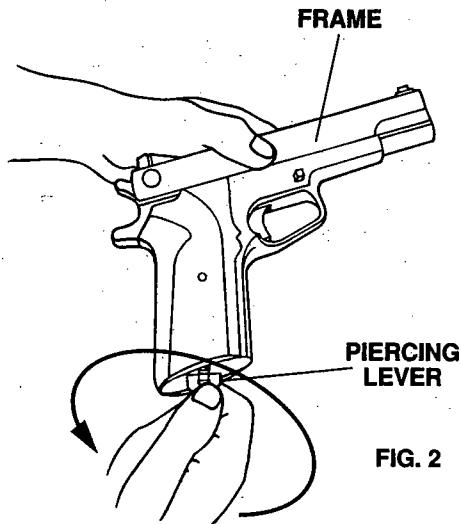

FIG. 2
- With one hand hold the pistol by the frame. With the other hand turn the piercing lever counterclockwise until it stops turning. (Fig. 2)